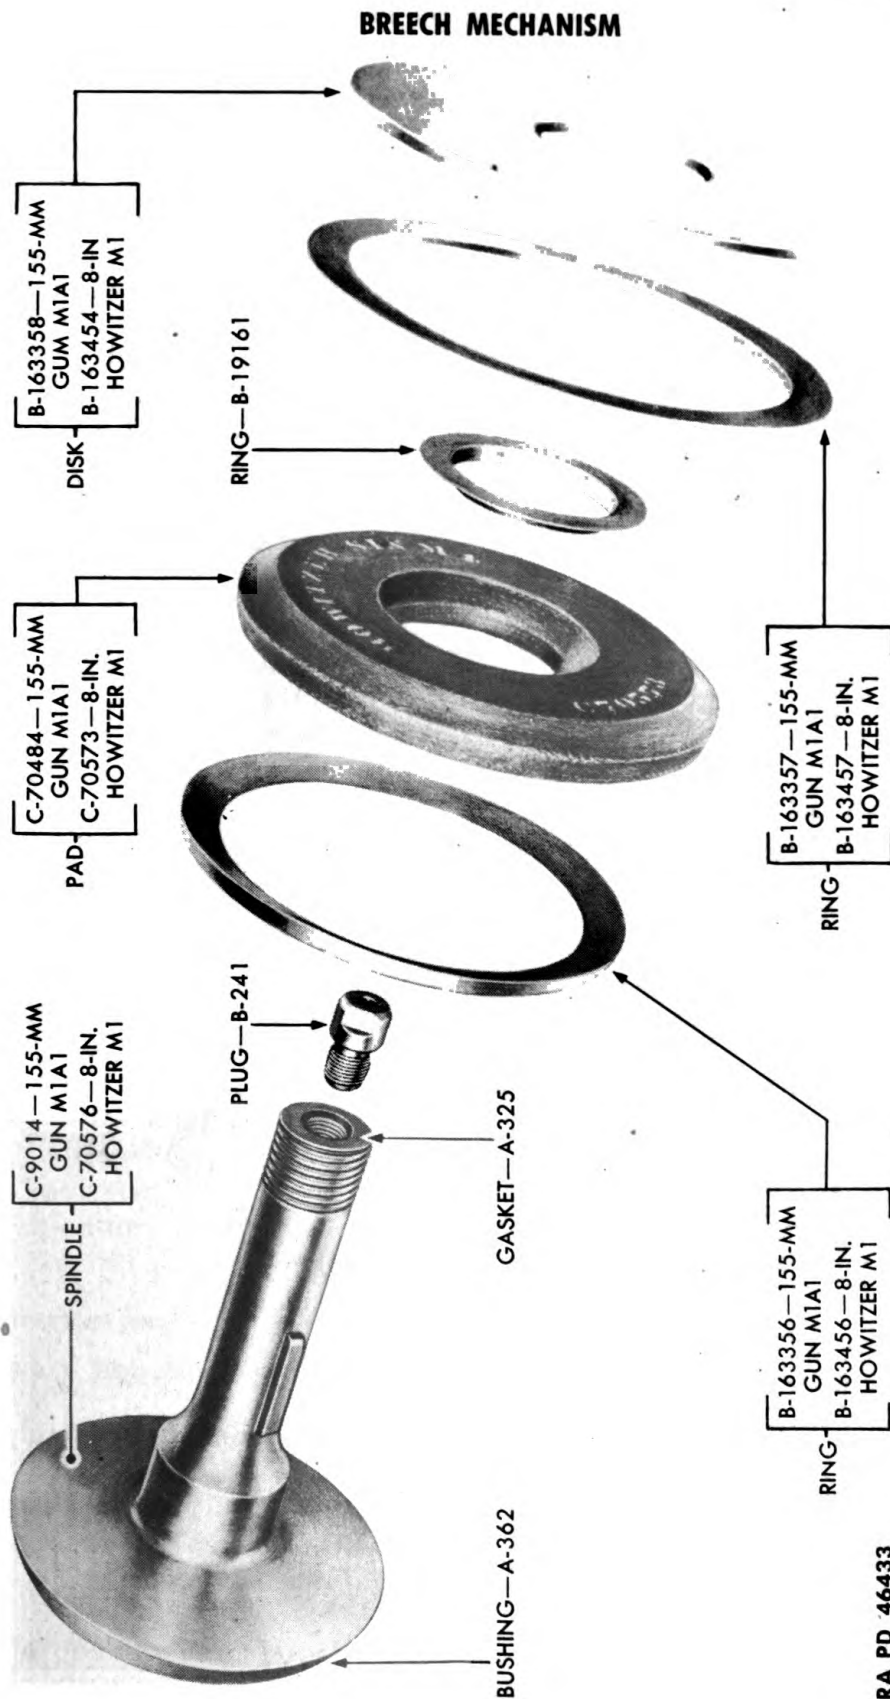

Figure 70—Obturator Spindle Group—Exploded View
j. Disassemble Obturator Spindle Group (fig. 70).
(1) Carefully remove filling-in disk, inner ring gas-check pad and split rings from obturator spindle.
(2) To remove plug B241, unscrew it from obturator spindle. Maintenance and repair of obturator spindle are covered in paragraph 37. **NOTE:** This plug is not to be removed except when a new plug is to be installed.